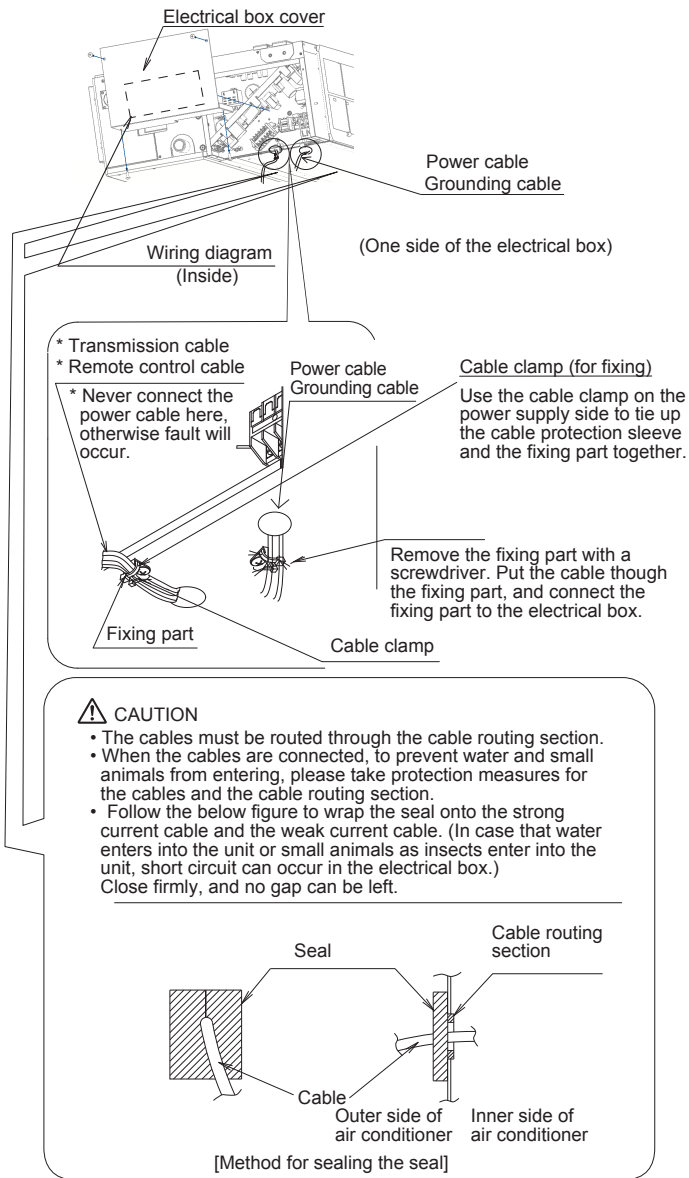

Fig. 14
To prevent the wiring connection from being pulled by extra tension, please follow the methods as shown in Fig. 14 to fix firmly with cable clamp.
- As shown in the Fig. 14, please open the electrical box cover and then connect the cables.
(Please refer to Fig. 14)
- When fixing the cables, note to follow the method in Fig. 14 to clamp with the cable clamp, so that the connection section will not be tensioned.